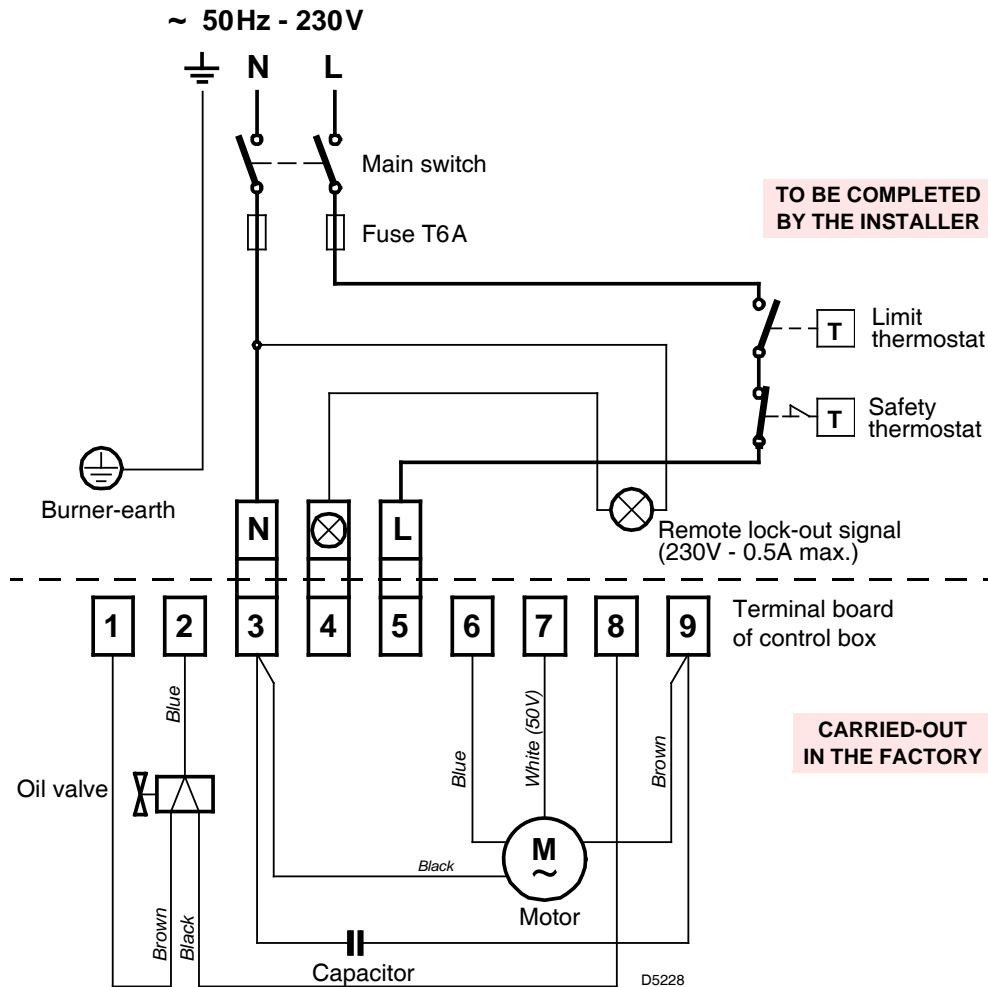

Fig. 15
- carry out the electrical connection direct to the wiring terminal block of the burner as shown on the diagram Fig. 15.